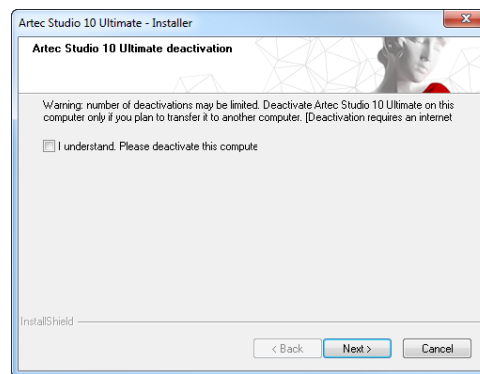

Figure 1.11: Deactivation of *Artec Studio*
3. You will be presented with a dialog as shown on figure 1.11. Select the *I understand. Please deactivate this computer* checkbox.